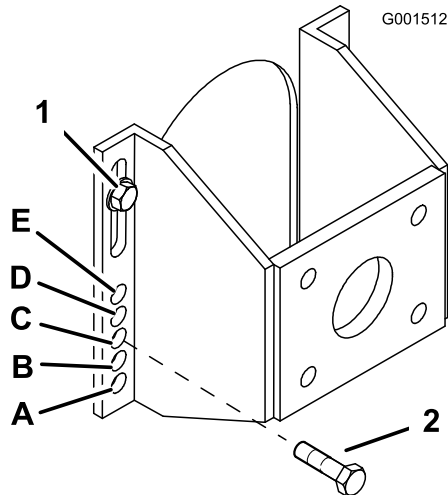

Figure 20
5. Loosen, but do not remove, the 2 top axle bolts (Figure 20).
- Remove the 2 lower axle bolts (Figure 20).
- Raise or lower the mounting bracket, so that you can install the 2 axle adjustment bolts in the desired hole location (Figure 20). A tapered punch can be used to help align the holes.